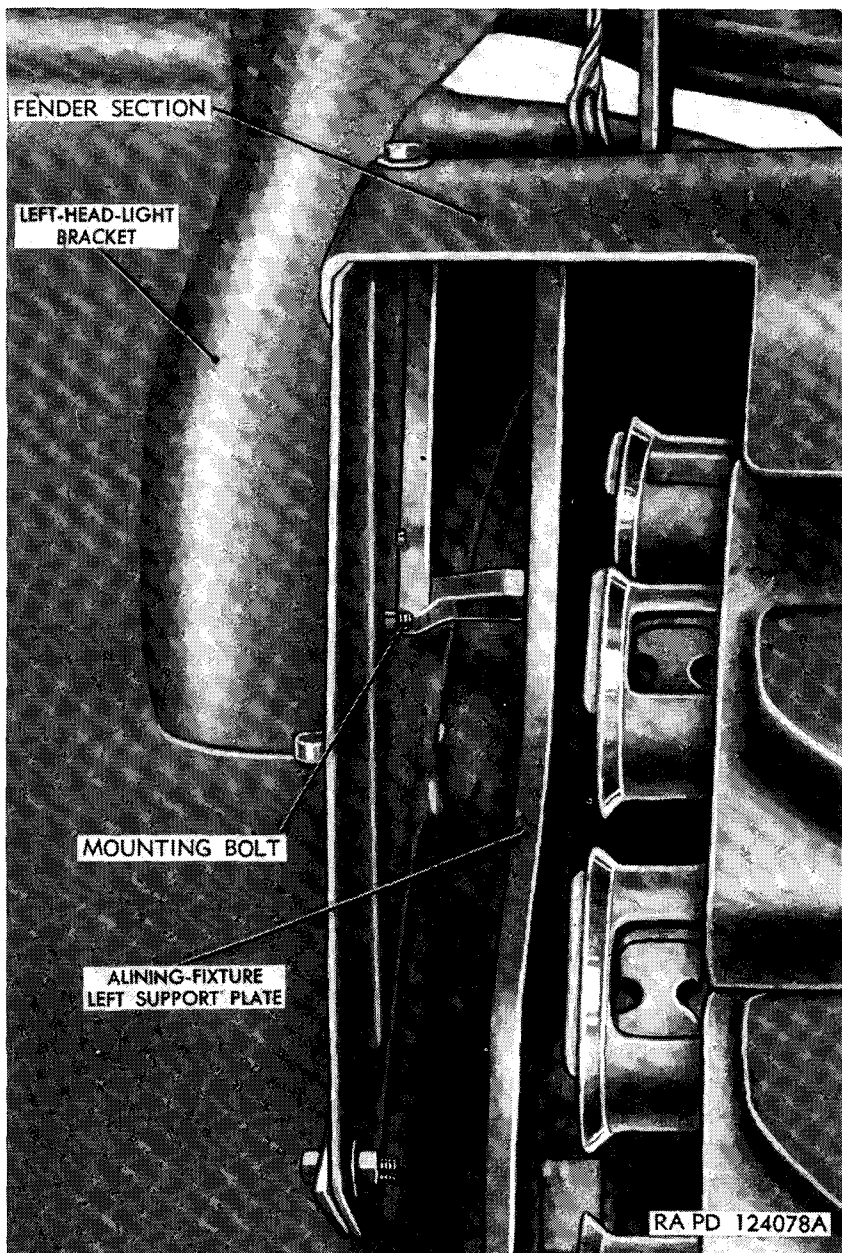

Figure 9. Locating left-head-light bracket.
Note. The bolt holes which are in the short vertical plate welded to the top of the support plate indicate the proper positions for the head-light-bracket holes. This plate presses against the track side of the vertical portion of the fender (fig. 9), and there is no clearance under the fender for punch marking and drilling the holes. Consequently, the holes must be located and marked on the outside of the fender (opposite the support plate). Each hole can be located within one-sixteenth inch by measuring the distance between the proper hole in the support plate and the front edge of the fender, and by then transferring this distance to the opposite side of the fender along a line parallel to the line of original measurement. Because the holes must be located by these approximate measurements, it is recommended that they be cut with a torch instead of being drilled. If drilled, they must be located to fractional accuracy; but if cut with a torch, each hole can be made round and approximately $\frac{3}{8}$ inch in diameter, which will be enough over size to allow for an inaccuracy in measurement up to one-sixteenth inch, but will be small enough to keep the nut from working through the fender after the bracket is bolted in place.
d. Check to make certain that the head-light bracket is positioned vertically, is pressed tightly against the side of the fender, and is also pressed down squarely against the vehicle hull (fig. 9), then tack weld it at bottom to the hull at several points.
i. Make certain that the bracket is positioned vertically, is pressed against the fender, and is pressed down against the vehicle hull, then tack weld it at several points to the hull (fig. 9).